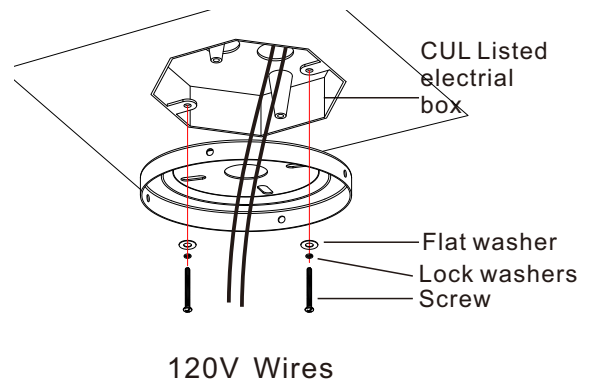

Figure 10
Step 2. Pass the 120-volt supply wires through the center in the ceiling hanger bracket as shown in (Fig. 10)